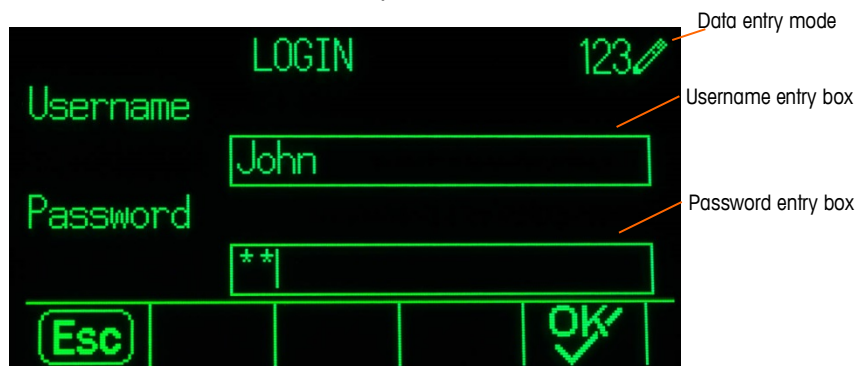
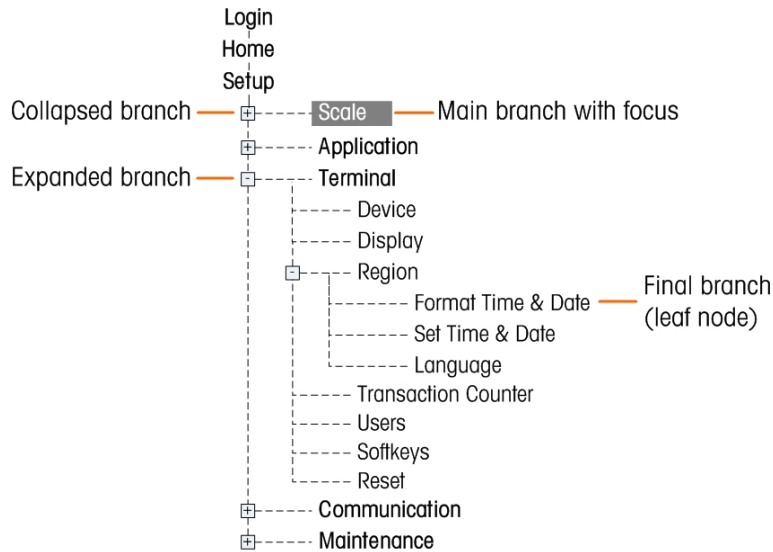

Figure 3-1: Login Screen
Figure 3-2: Setup Menu Tree Example
Most of the setup menu is viewable by any user at any time. If user security has been enabled and a user is attempting to enter setup for the purpose of modifying terminal configuration, the user should first navigate to the Login branch at the very top of the setup menu (Figure 3-2) and enter a valid user name and password combination (Figure 3-1). Entry of a valid username and password combination will grant access to the user at the security level associated with the login.
1. Press the ENTER key to access the **Username** entry box. The current data entry mode is identified at the right of the top line (see Figure 3-1).
Each line of the setup menu tree is referred to as a branch (see Figure 3-2). Some branches have additional sub-branches that become visible when the view of the main branch is expanded. If a branch has sub-branches, the collapsed symbol (⊞) initially displays in front of the branch name. After the branch view has been expanded, the expanded symbol (≡) displays in front of the branch name and the additional branches become visible. Any branch that is not expandable is called a leaf node.
The first branch of the menu tree shown with focus is the Scale branch (Figure 3-2).
If the field value is for a data entry box and alpha/numeric character entry is possible, the data entry mode will appear in the upper right of the display (Figure 3-1).